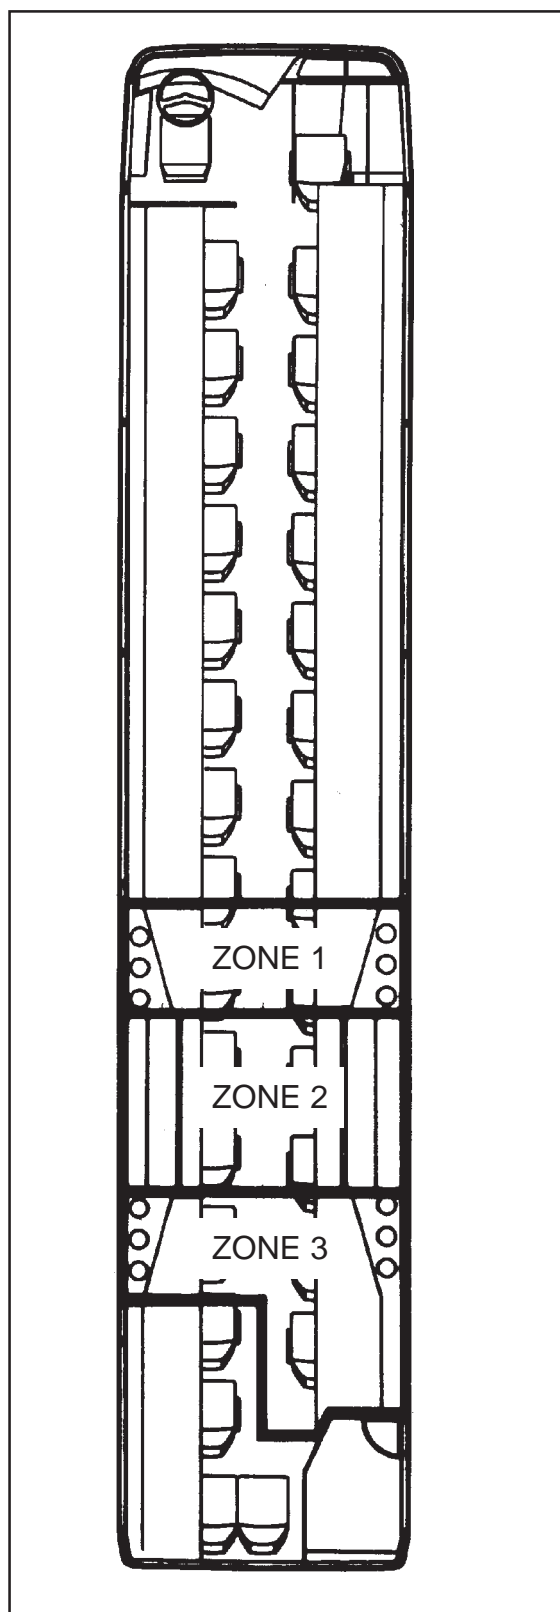

Figure 2: Zones with reduced number of vent holes
- Block off 1 in 3 holes near the front parcel rack blowers (Figure 2, zone 1)
- Block off 2 in 3 holes near the evaporators (Figure 2, zone 2)
- Block off 1 in 3 holes near the rear parcel rack blowers (Figure 2, zone 3)